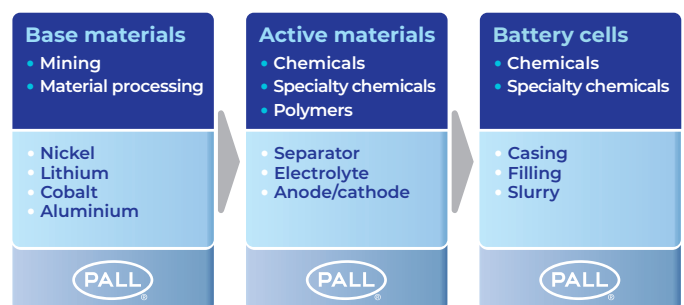

Figure 2: Applications in the EV Battery Value Chain
The various stages in the Electric Battery (EV) value chain are given in Figure 2. For each segment, filtration and separation play a vital role in meeting process goals for yield, purity, and reliability. For base materials, mining and unique material processing are required for Nickel, Cobalt and Aluminium as well as Lithium as described in this paper. Active materials involve treating of chemicals, specialty chemicals and polymers to make the essential battery components consisting of the separator, electrolyte, and anode/cathode. The battery cells also use chemicals and specialty chemicals that must be at rigorous purity levels for preparing the casing, filling operations, and preparing slurries.